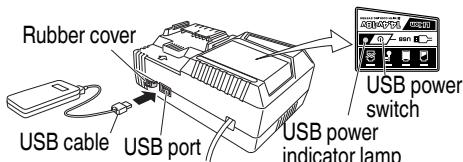

Fig. 9
(2) Turn the USB power switch ON (Fig. 9)
(3) Connect the USB cable. (Fig. 9)
○ Turn the USB power switch OFF and unplug the power cord from the electrical outlet. (Fig. 9)